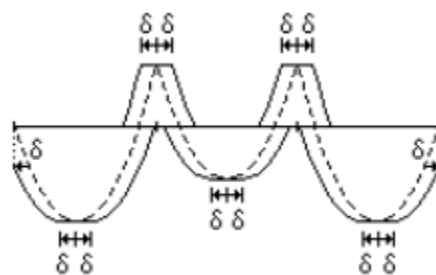

Figure 33: Shifted moment-line
1. When determining the reinforcement section at the place of the change of section the program takes the fact into consideration that the diagram of moments has to be shifted over a distance δ (Figure 33). This means that the reinforcement section required at a certain place, is the maximum within a zone with length 2δ (centralized around the